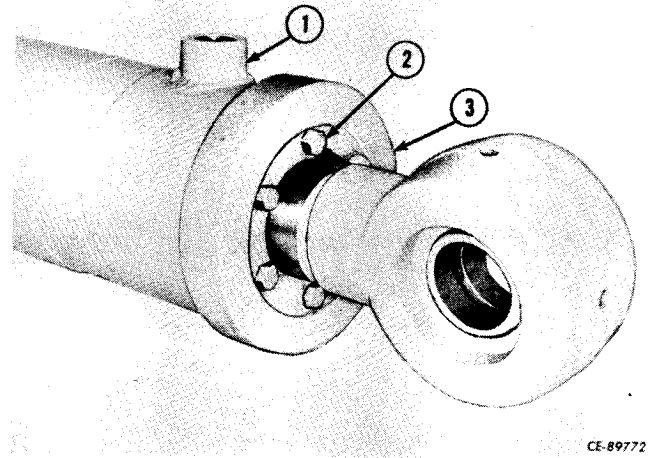

Figure 11-93
Remove the cap screw and lock washers (2, Fig. 11-93) that retain the cylinder end cover (3) to the cylinder (1).
Secure the end cover (3, Fig. 11-93) to the cylinder (1) with the cap screws and lock washers (2).